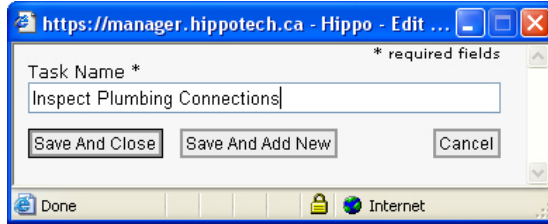

Figure 42: Task
- e. Tasks (select from the list OR click **add task** to add a new task (See Figure 42))